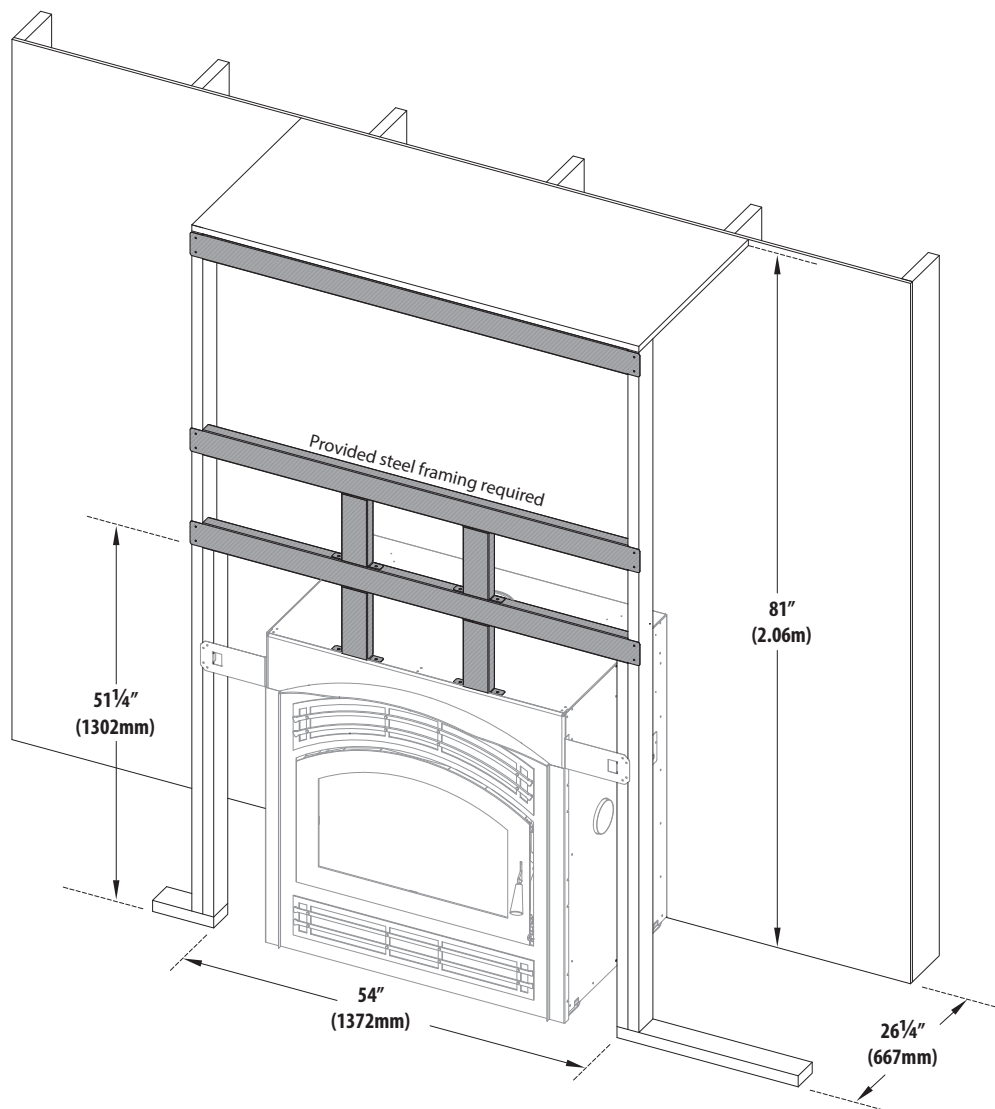

Figure 3.6, Framing Dimensions
2. Form the (4) vertical steel framing members as shown. These steel framing members are identical.
3. Form the (3) horizontal steel framing members as shown. These steel framing members are identical.
- Refer to Figure 3.6, Framing Dimensions on page 15 for the steel framing assembly completed installation.